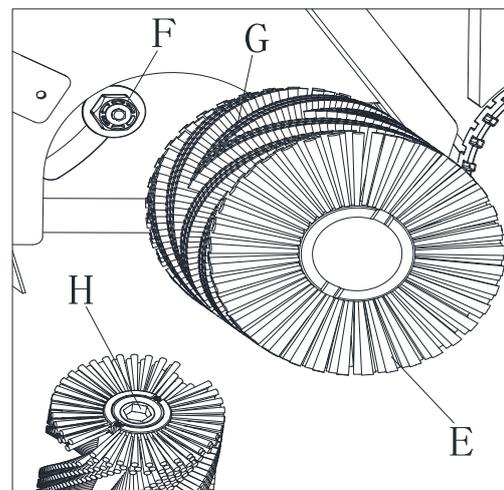

Figure 22
5. Remove the main broom (E, Figure 22).
6. Check if there is dust or other foreign objects (such as wires, fabric, etc.) on the drive hub (F, Figure 22). If so, clean them off.
7. When installing a new main broom, ensure the bristle shape is as shown in (G, Figure 22).
8. When installing a new main broom, align the main broom hub (H, Figure 22) with the drive hub (F, Figure 22).